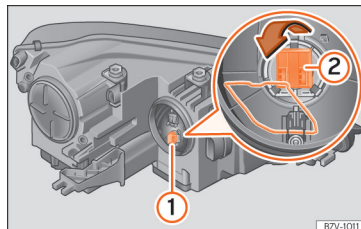

Fig. 65 Turn signal bulb holder **①** and turning light **②**.
- Rotate the bulb holder  **Fig. 65** ① all the way to the left and pull it out backwards together with the bulb.
- Press the wire clip downwards and pull the bulb holder  ② **Fig. 65** out together with the bulb.